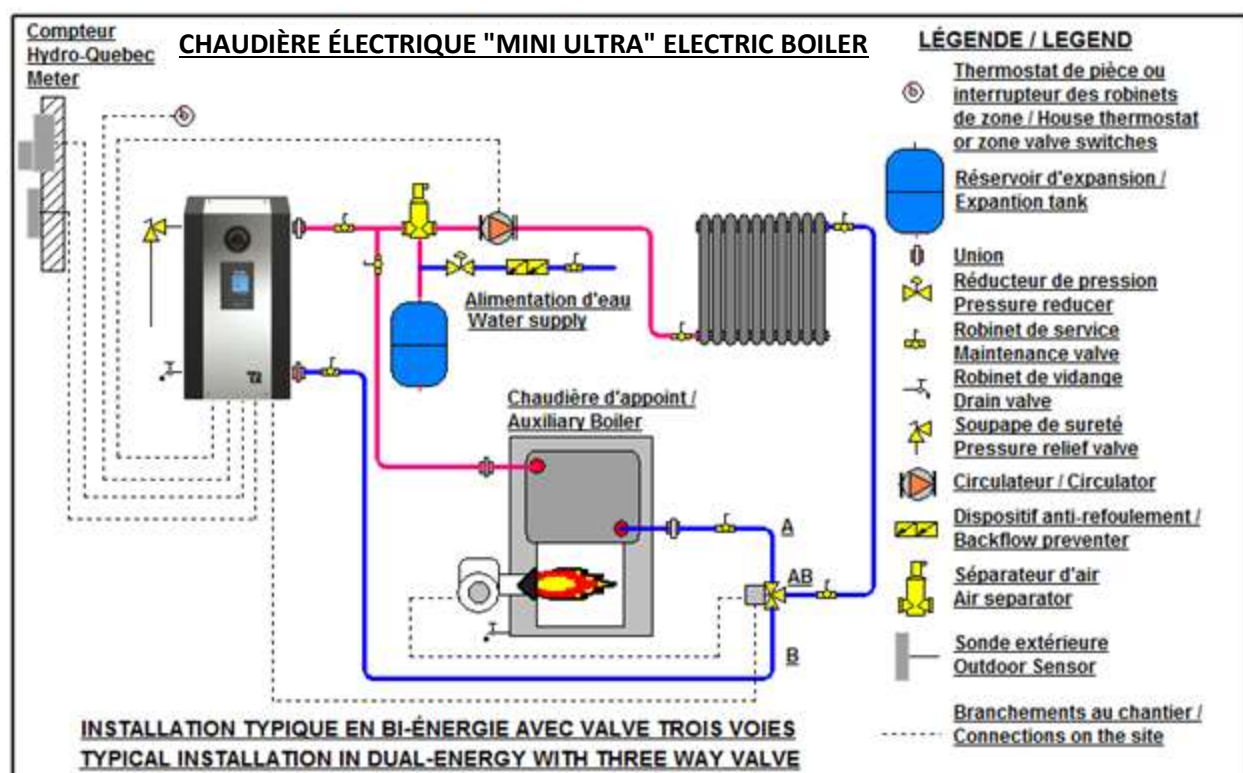

Figure 7 : Typical insallation for dual-energy with three-way valve
N.B.: Make sure to select the appropriate port A, B and AB when making the connection of the piping (see fig.7)
- If the piping installation is made as shown on fig.7 without a three-way valve: